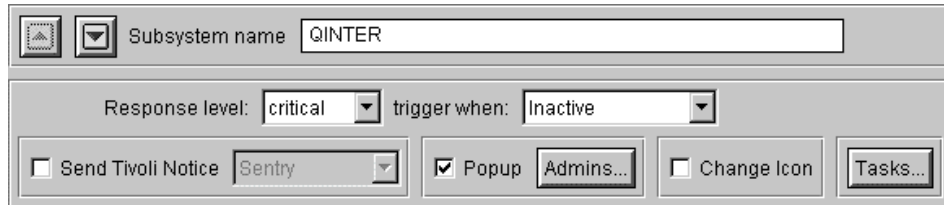

Figure 275. Selecting the monitor severity level
- Next, the Edit Monitor screen, shown in Figure 275, is displayed. Here, we can tailor the monitor to suit our environment. First, we need to select a response level and a trigger.